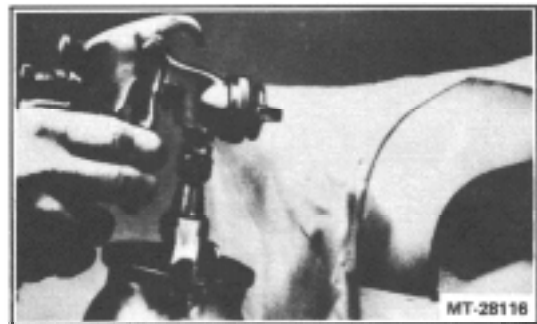

Figure 17. - Painting the Surface
- Clean the area with air, and remask if necessary. Then spot prime the surface and wet sand with 400 to 600 grit sandpaper. Complete the repair by painting the surface (Figure 17).